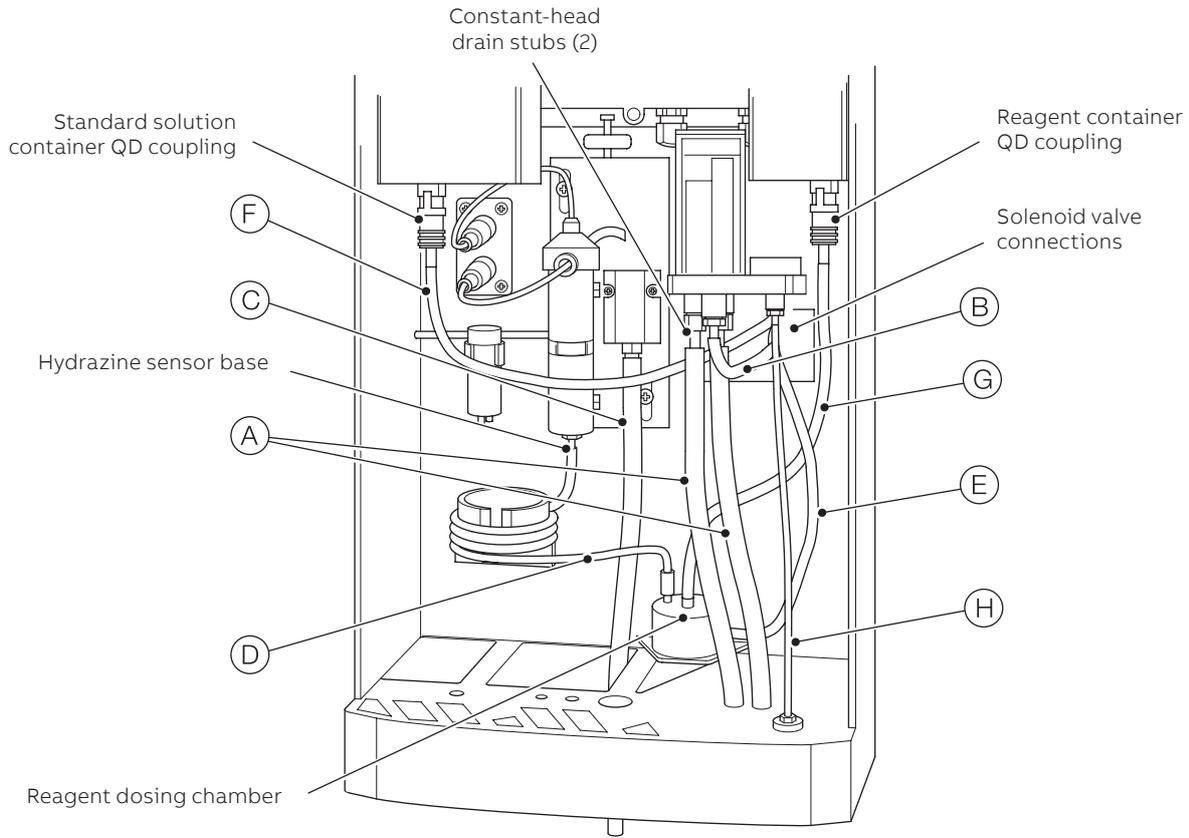

Fig. 8.3 Removing / Replacing tubing in wet-section
Referring to Fig. 8.3, page 56:
- 5 Disconnect the QD coupling on the reagent container (see Fig. 8.3, page 56) and remove the reagent container. Either empty the contents into a storage container or discard, rinse out the container and replace in the wet-section.